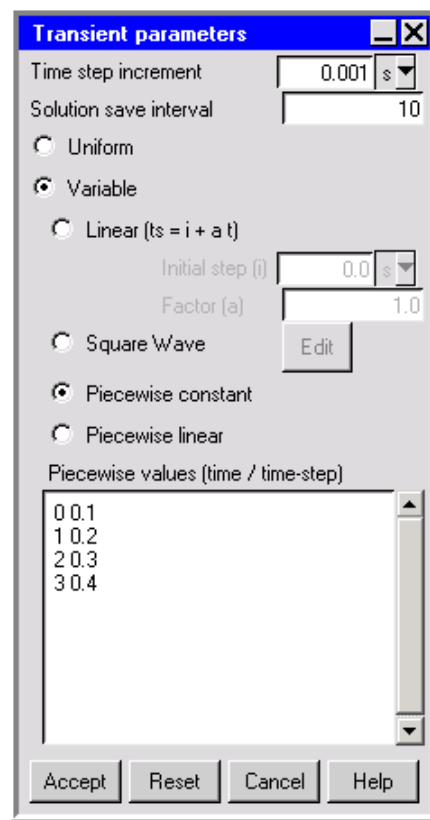
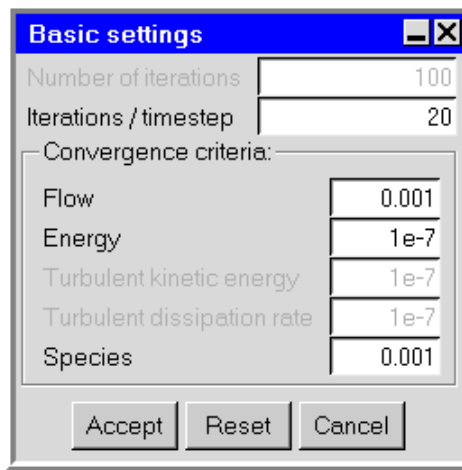

Figure 20.1.2: The Transient parameters Panel
Figure 20.1.7: The Basic settings Panel for a Transient Simulation
3. To edit the default transient parameters (if required), click on **Edit parameters**. This will open the **Transient parameters** panel shown in Figure 20.1.2.
9. Set the maximum number of iterations to be performed per time step under **Iterations/timestep** in the **Basic settings** panel (Figure 20.1.7). To open this panel, double-click on the **Basic settings** item under the **Solution settings** node in the **Model manager** window. If the **Convergence criteria** are satisfied before this number of iterations is performed, the solution will advance to the next time step. The default value of 20 iterations/time step should be acceptable for most cases. If you find that the solution is not converging at each time step, you can increase the **Iterations/timestep** value and/or decrease the size of the **Time step increment** specified in the **Transient parameters** panel (Figure 20.1.2).
Files will be saved at the frequency specified next to **Solution save interval** in the **Transient parameters** panel (Figure 20.1.2). A separate file is saved for each time step for which data are saved.